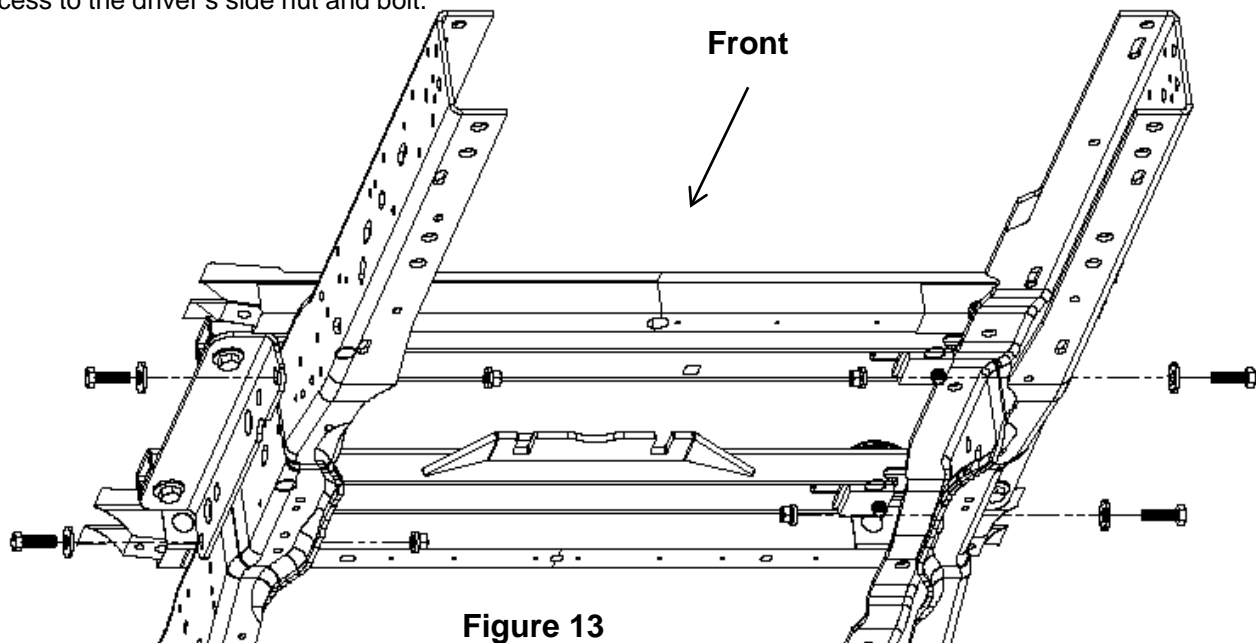

**Figure 12**
17. Loosely attach frame brackets (#2 & 3) (Figure 1) to mounting kit rails using 5/8" X 1 3/4" (#10) (Figure 1) long bolts, conical washer (#11) (Figure 1) (below bracket), conical washer (#11) (inside rail), and 5/8" nut (inside rail) (#9) (Figure 12). Tighten all mounting kit bolts to hand tight.